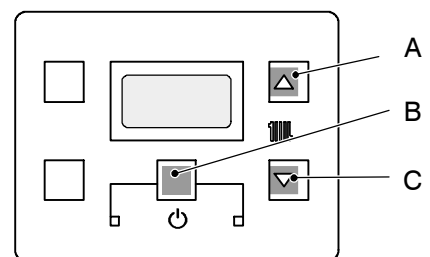
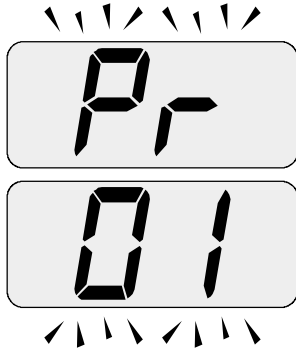

Fig. 6.4
Fig. 6.5
- 1 To enter in the parameters setting mode press contemporary the 3 keys (A – B – C Fig. 6.4) for 10 second until the display shows Fig. 6.5
To reset the boiler to the normal operation press contemporary the 3 keys (A – B – C Fig. 6.4) for 10 second.